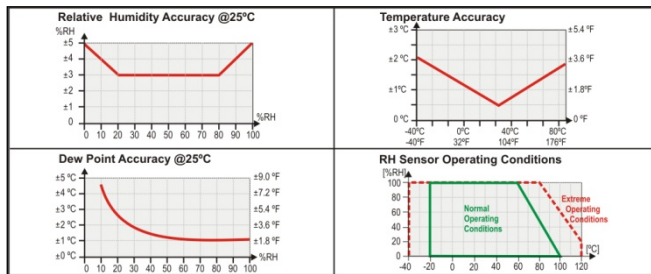

Fig. 01 - RH and Temperature accuracies
- Accuracy: Refer to Fig. 01;
- Operating limits: Sensor and probe (RHT/DM): see Fig. 01;
Humidity sensor has a total span of 0 to 100 % and accuracy of 3 % at 25 °C, as showed in Fig. 01. This 3 % RH error is the same no matter if the total span is configured (0 to 100 %) or a narrower span (like 20 to 80 %).